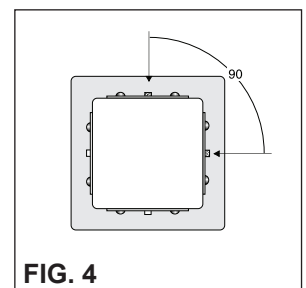

FIG. 4
1. If necessary, pre-install required set screws in wall plates using Allen wrench (provided). NOTE: Two set screws positioned and tightened at 90 degrees to each other in both plates will adequately hold device (See Fig. 4).